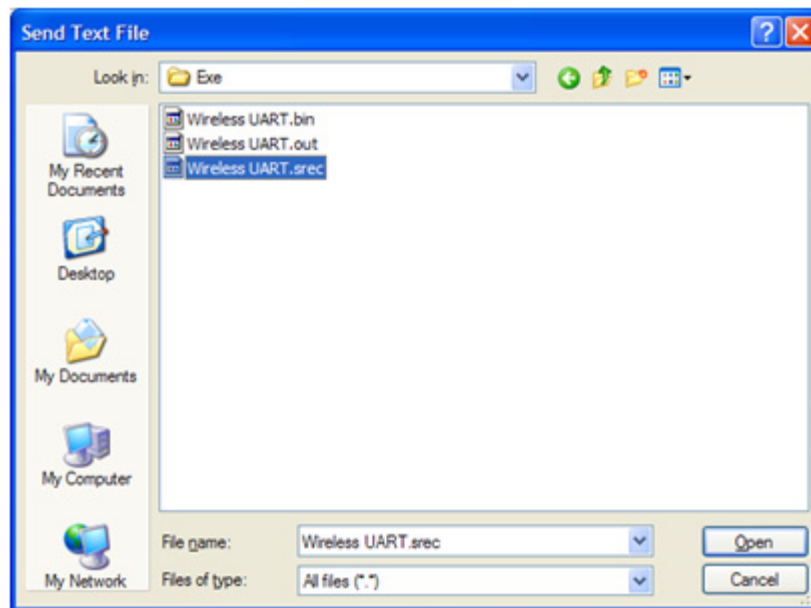

Figure 10-6. Downloading the Image to the OTAP Programmer
- To select and send a `.srec` file as a text file using the serial terminal, click on Transfer -> Send File and the Send Text File window appears as shown in Figure 10-6. Select the appropriate `.srec` file, then click on the Open button.